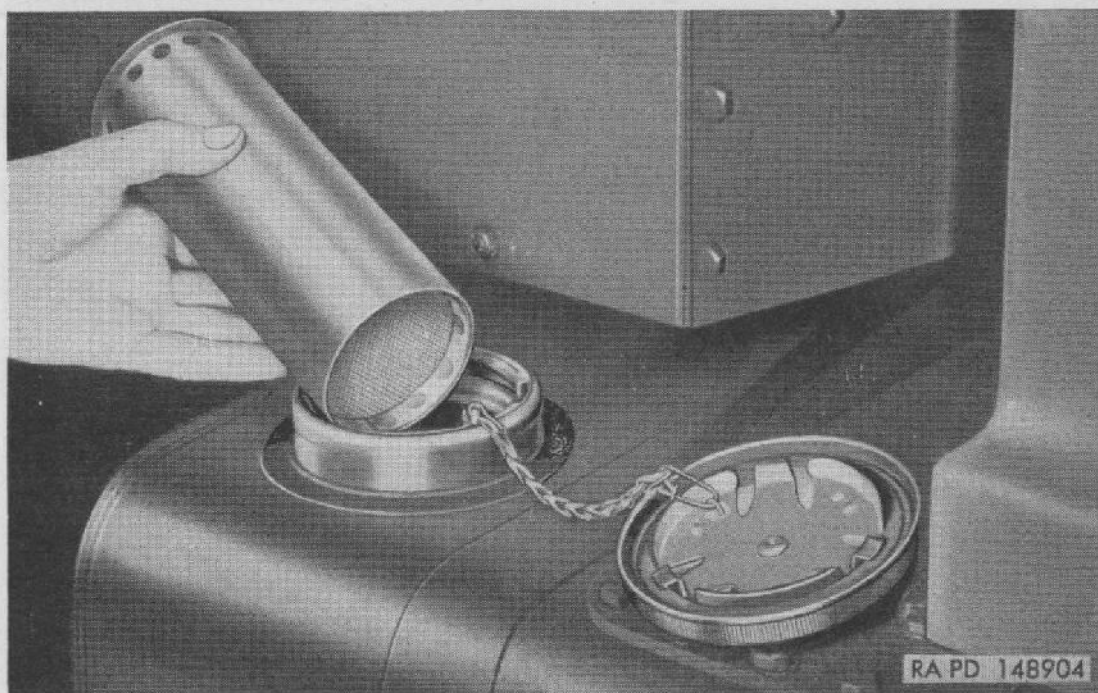

Figure 60. Fuel tank cap and strainer.
b. **FILLING FUEL TANK** (fig. 60). Fuel tank filler cap assembly incorporates a relief valve which opens at pressure of $2\frac{1}{2}$ psi. Filler cap is attached to tank by chain to prevent loss of cap. Wire mesh strainer located at lower end of metal filler tube prevents large dirt particles from entering fuel tank.